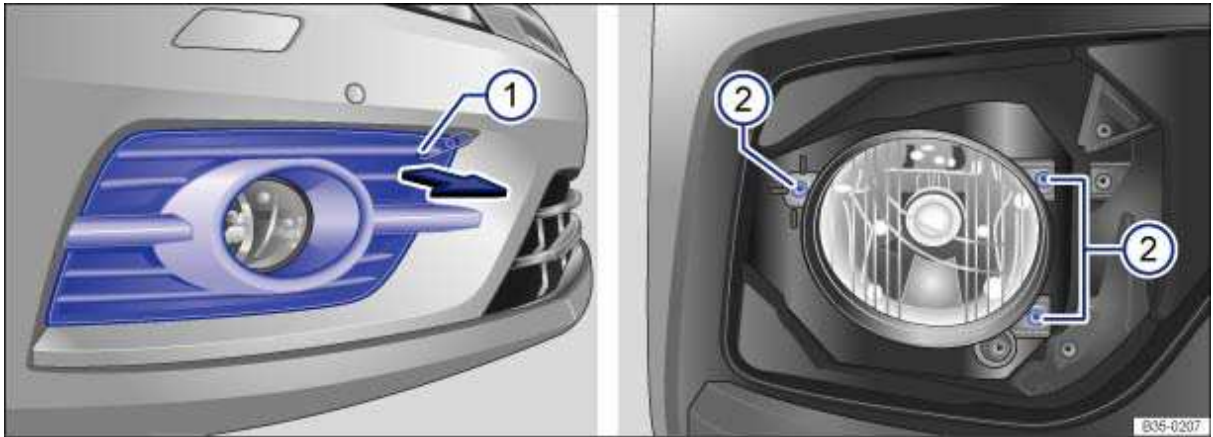

Fig. 190 In the right front bumper: Fog light.
| 3. | Insert the wire bracket into the opening ⇒ fig. 190 (1) on the cover and pull it forward in the direction of the arrow with the cover and remove. |
12.	Connect the connector (1) on the bulb so that it clicks into place.
14.	Install the screws ⇒ fig. 190 (2) .